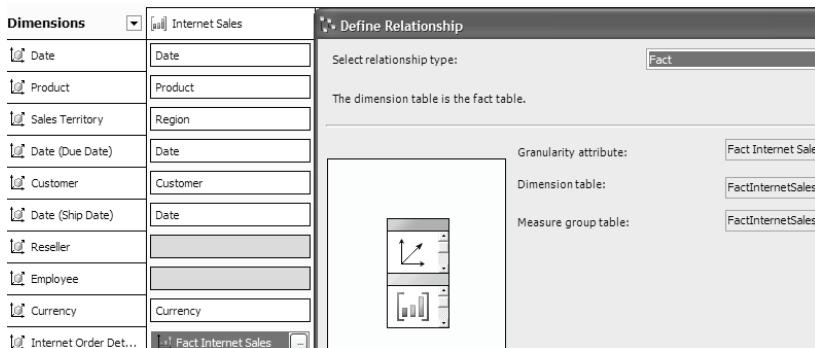

Figure 5.11 A degenerate dimension has a Fact relationship to the fact table it is derived from.
8. Click OK to return to the Dimension Usage tab. Note that the Internet Order Details dimension is added at the end of the Dimensions column list (Figure 5.11).